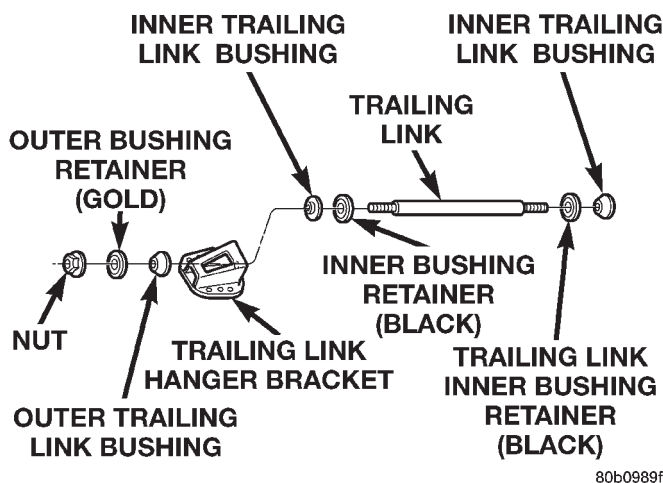

Fig. 38 Trailing Link Bushing Installation
(1) Install the black inner bushing retainer, and inner bushing (Fig. 38) on the trailing link. Install the trailing link, retainer and bushing on the hanger bracket (Fig. 38). Then install the outer bushing, gold outer bushing retainer and nut (Fig. 38) on the trailing link. Using a large adjustable wrench on the flat of the trailing link to keep it from rotating, tighten the trailing link retaining nut to a torque of 99 N·m (73 ft. lbs.).
(2) Install the (black) inner bushing retainer, and inner bushing (Fig. 38) on the trailing link.
(3) Install knuckle end of trailing link in rear knuckle.